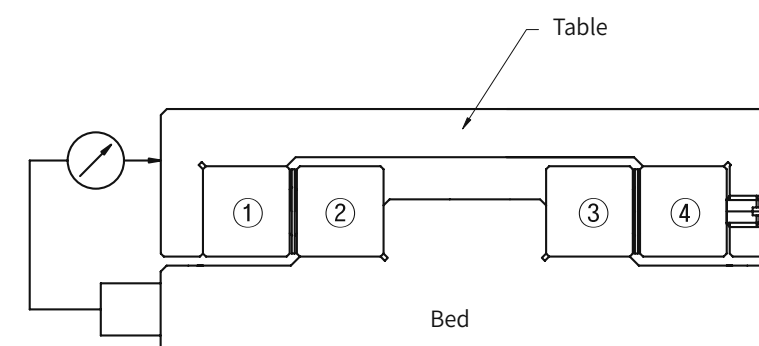

Figure 4. How to install
- 1) Place the mounting surfaces of the race rails ①, ②, and ③ closely and accurately on the bed and table and connect them completely.
- 2) Connect the race rail ④ temporarily with the table and secure a gap enough to push a roller cage into the side.
- 3) Set a dial gauge as shown in Figure 4. Lightly fasten an adjustment bolt until the table has no runout in order to obtain a certain amount of stroke. Set the dial gauge to zero.